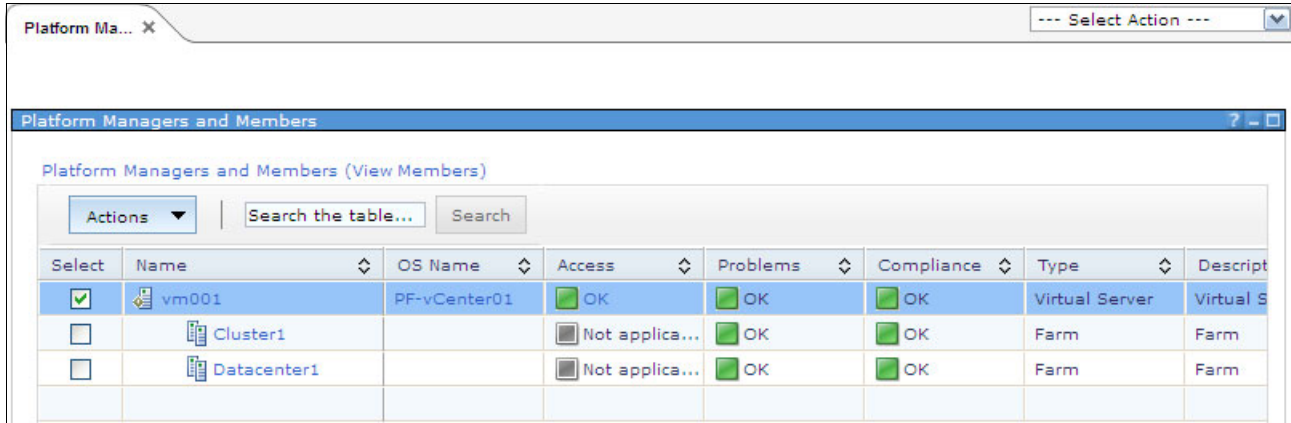

Figure 11-61 Platform Managers and Members window
1. In the IBM Flex System Manager web interface navigation area, expand **Inventory** and **Views** and click **Platform Managers and Members**, as shown in Figure 11-61. For this example, select the vCenter server PF-vCenter01 that is installed in virtual machine **vm001**.